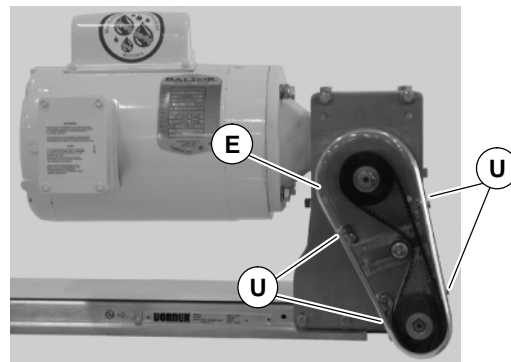

Figure 20
**NOTE:** Do not over-tighten screws (U of Figure 20).
- Attach cover (E of Figure 20) and tighten four (4) screws (U) to 35 in-lb (4 Nm).